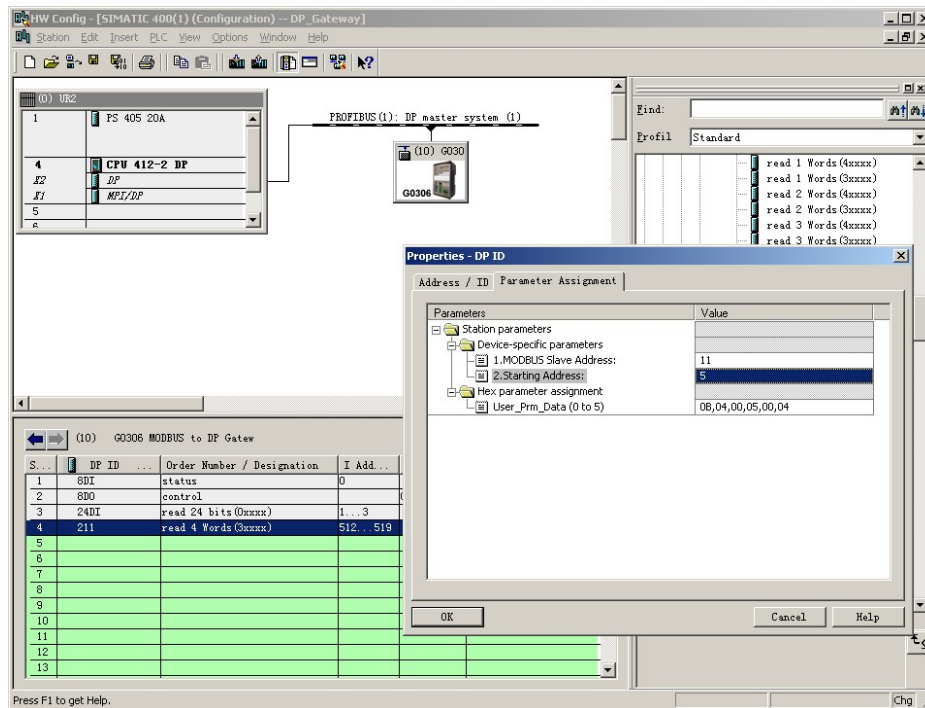

Figure 20 Configure "read 4 Words(3xxxx)" module user parameters
**b) Configure the user parameters of the "read 4 Words(3xxxx)" module, as shown in Figure 20:**
"1.MODBUS Slave Address:" ⇒ Type in the MODBUS slave address 11, as shown in Figure 20
"2.Starting Address:" ⇒ Type in the starting address 30006 of the register 3xxxx to be read, and set the address to 5 "OK", as shown in Figure 20.